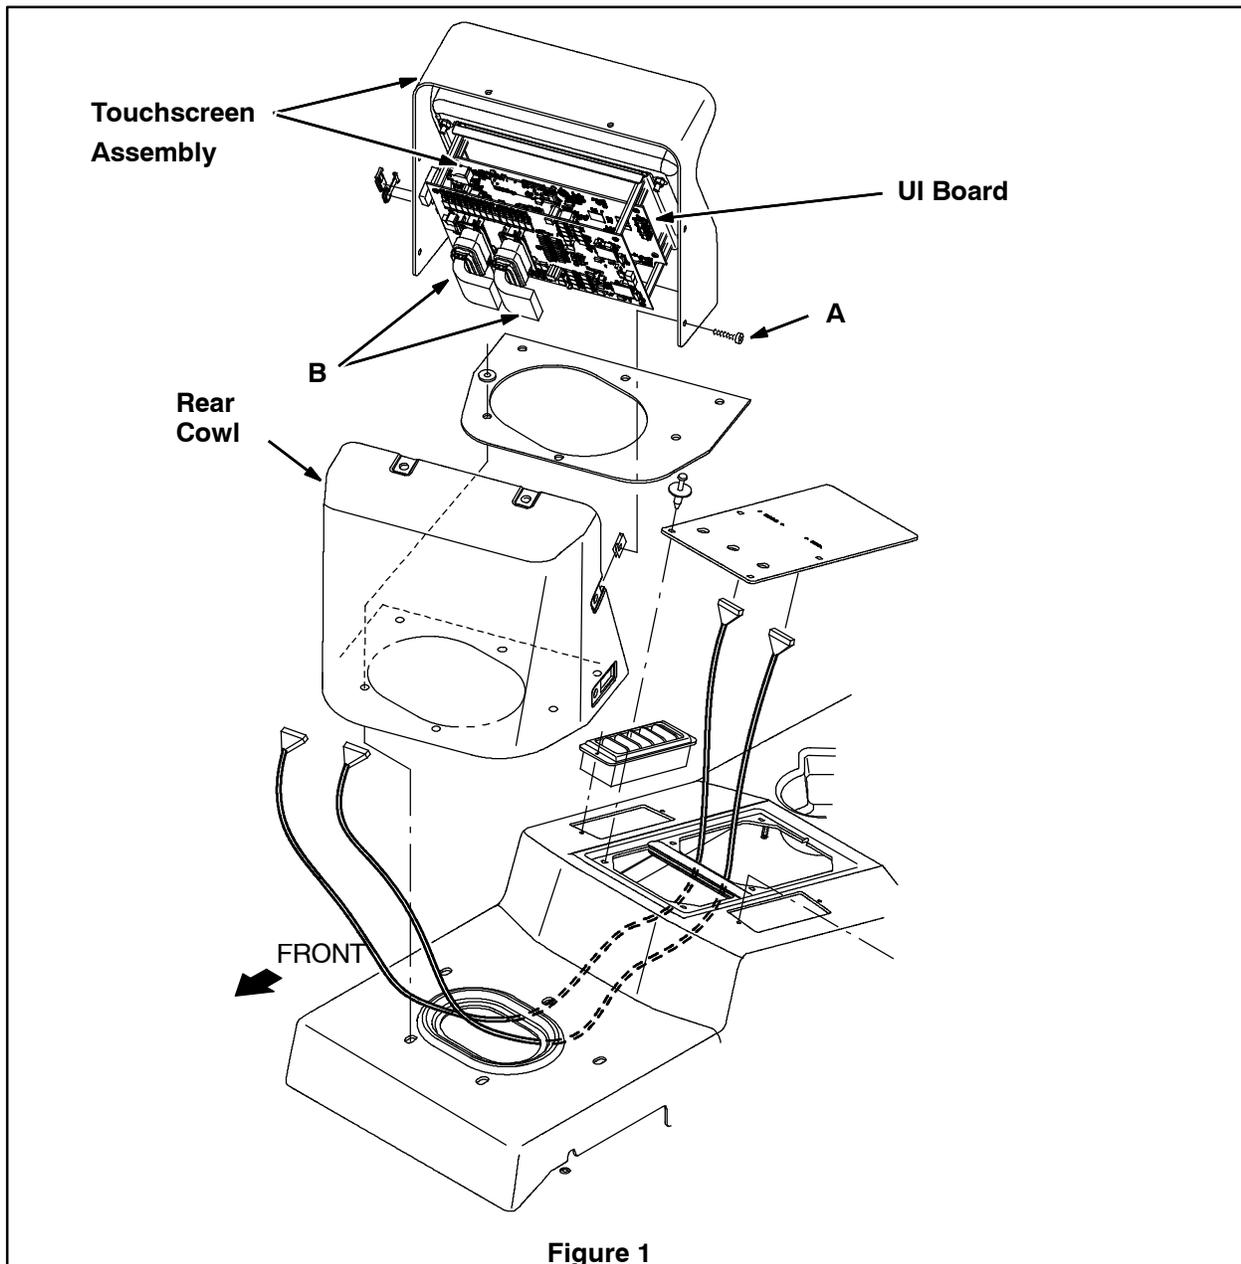

Figure 1
1. Remove the six existing screws that fasten the Touchscreen assembly to the rear cowl then pull it away from the cowl a few inches. (Fig. 1) (A).
2. Disconnect the P1 and P2 from the assembly (Fig. 1) (B).